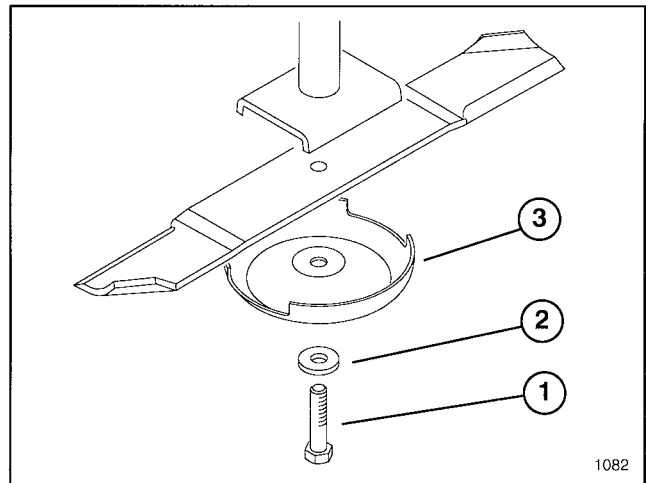

Figure 12
2. Hold the blade end using a rag or thickly padded glove. Remove blade bolt, flatwasher, anti-scalp cup and blade from spindle shaft (Fig. 12).
3. Install blade-sail facing toward cutting unit with anti-scalp cup, flatwasher and blade bolt (Fig. 12). Torque blade bolt to 85–110 ft. lb.